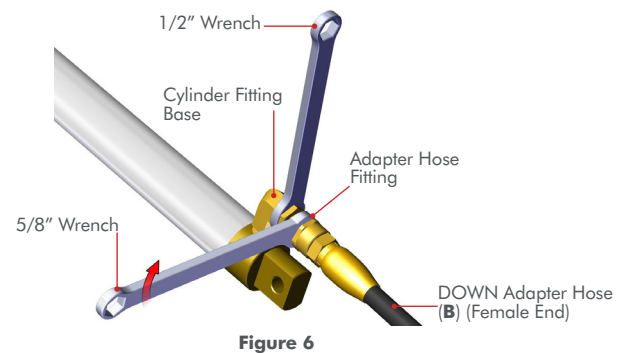

Figure 6
STEP 7: Repeat **Steps 5 & 6** for the **DOWN (Short) Quick Disconnect Adapter Hose (B)**. **FIG 6**